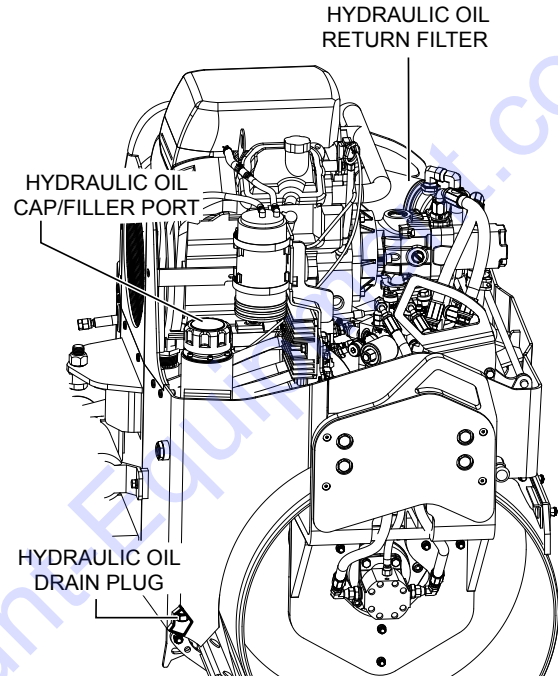

Figure 28. Hydraulic Filter Locations
The suction filter (Figure 28) is located inside the hydraulic tank. This filter is attached to the fitting connected to the hydraulic pump suction hose.
The return filter (Figure 28) is located at the front of the engine compartment. Replace both filters according to the Table 5.
2. Remove the hydraulic oil drain plug (Figure 28) and drain the hydraulic oil. Dispose of the used oil in an environmentally friendly manner. Replace the drain plug and tighten.